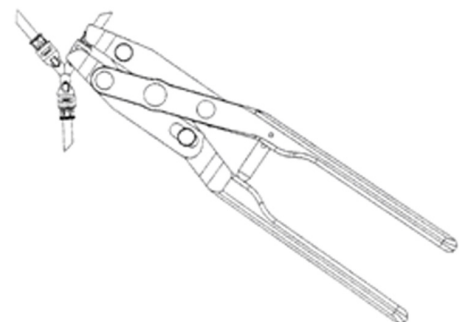

Figure 4-36. Quick Connect Assembly Tool (Approach from the side of 3-way connector)
9. When using a 3-way connector, the assembly tool must be used 3 times - once on each end of the connector. The assembly tool must be engaged from the side of each connector end. Advance the tubing into each connector end until the tubing touches the inner connector wall as seen through the connector window. (Figure 4-36)